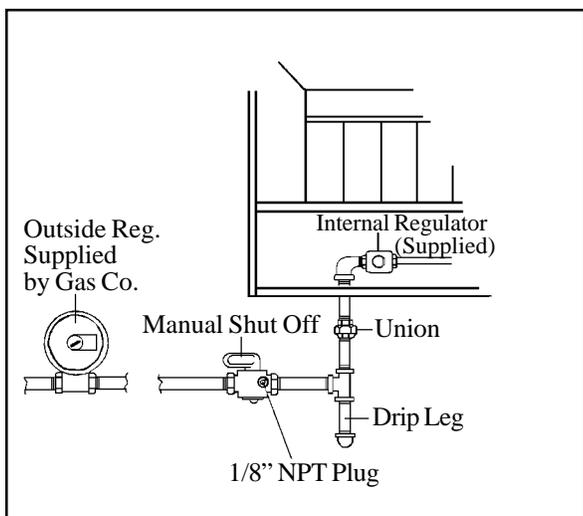

FIGURE 6
STEP 1. Make the gas connection between the manual shut off valve and regulator located inside heater cabinet. Hold regulator when tightening connection to prevent damage to regulator and internal tubing. See Figure 6 for completed installation.